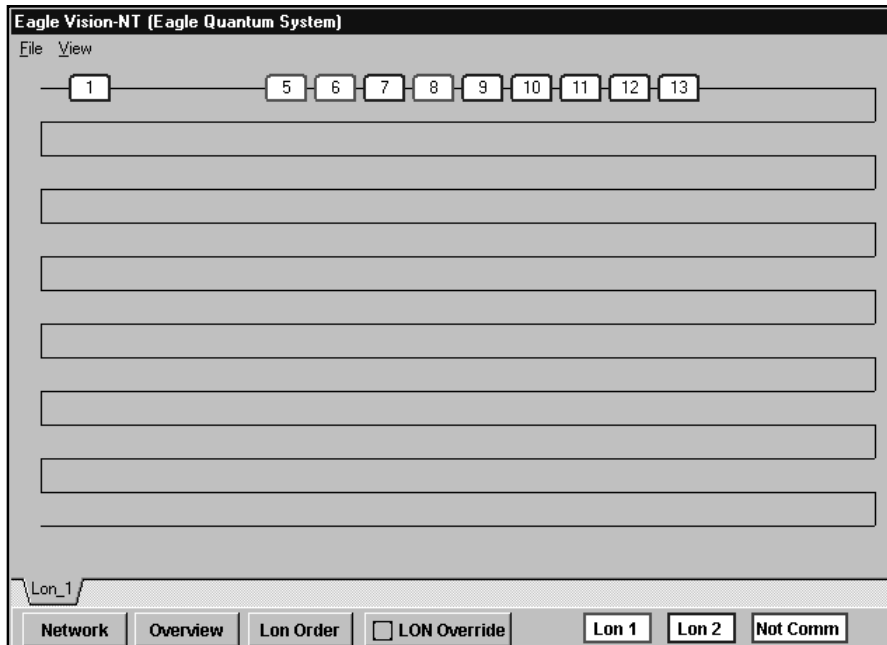

FIGURE IX-1
Click on the LON Diag. button. The LON Diagnostic screen is displayed. See Figure IX-1.
1. From the Point Configuration screen (Figure V-1) select Overview. The system Diagnostic screen is displayed (Figure IX-1).